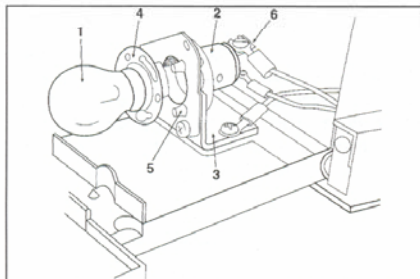

Figure 3-1 Lamp replacement
4. Using finger pressure, press the lamp socket toward the mounting bracket (Figure 3-1).